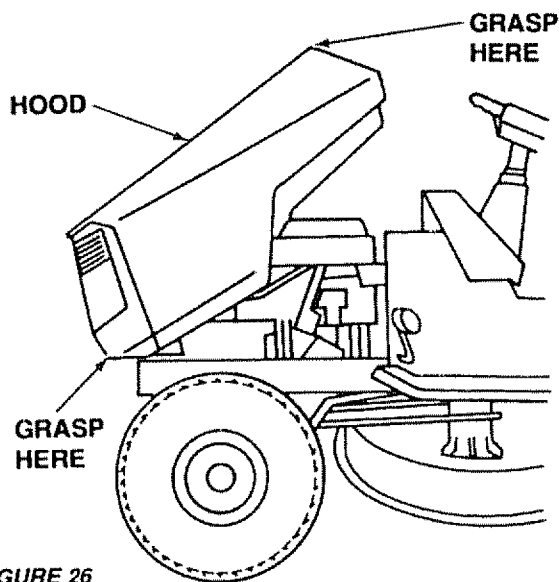

FIGURE 26
- Lower hood half way and grasp at the bottom of the grill and at the upper hood edge (Fig. 26). Lift hood up, out and away from tractor.